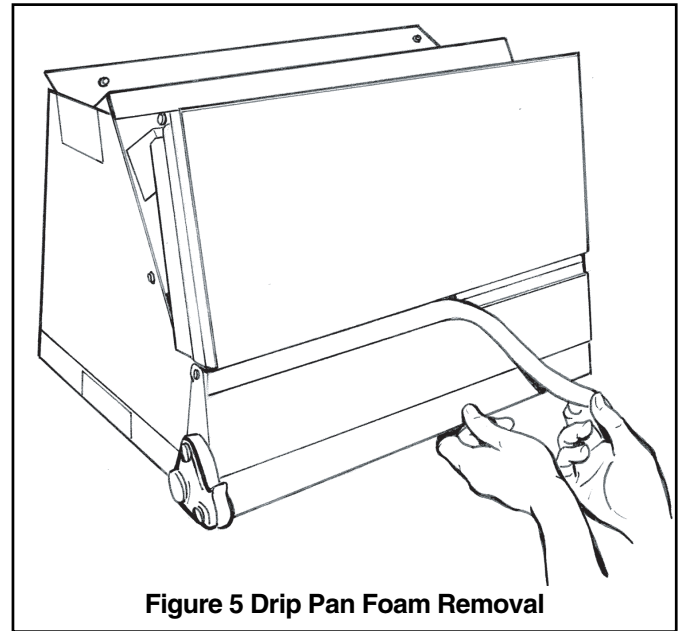

Figure 5 Drip Pan Foam Removal
- a. **For maximum efficiency**, the horizontal drip tray should be removed. See Figures 5, 6 and 7. Tray removal requires that the coil be removed by sliding the coil out on the coil channel supports. There is a coil support tab at the top of the coil connected to the case must be removed first. Remove 1 inch insulation strip covering the lip of the drip tray. The tray is detached by removing the two screws at the drain pan. Remove the two screws holding the two brackets at the top of the coil. Remove drip tray by gently breaking the seal between the drip tray and drain pan.